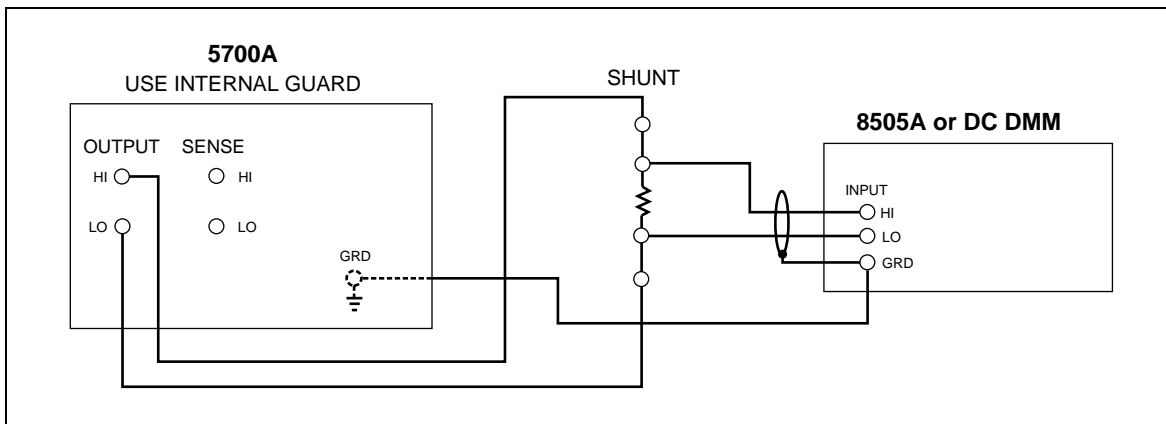

Figure 3A-9. Direct Current Accuracy Test Setup
3. Connect the equipment as shown in Figure 3A-8 using the L&N 0.1W resistor.A